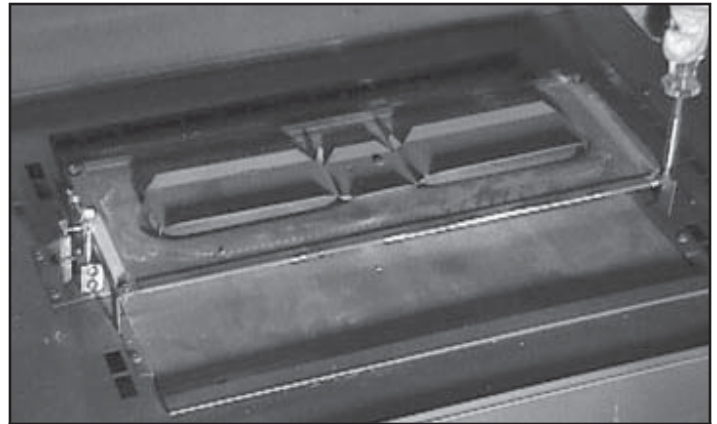

Figure 10.5 Remove Burner Assembly
- Remove the burner assembly by unscrewing the four screws holding it in place. See Figure 10.5.